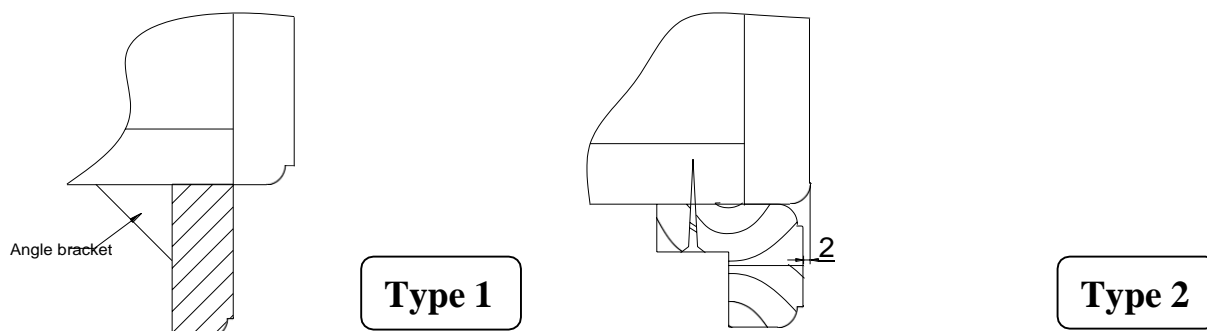

Fig. 25
1. Depending on the model, there are two types of lower cornice regarding the type of installation. Type 1 is faced with the casing; type 2 is faced with the front (Fig. 25).